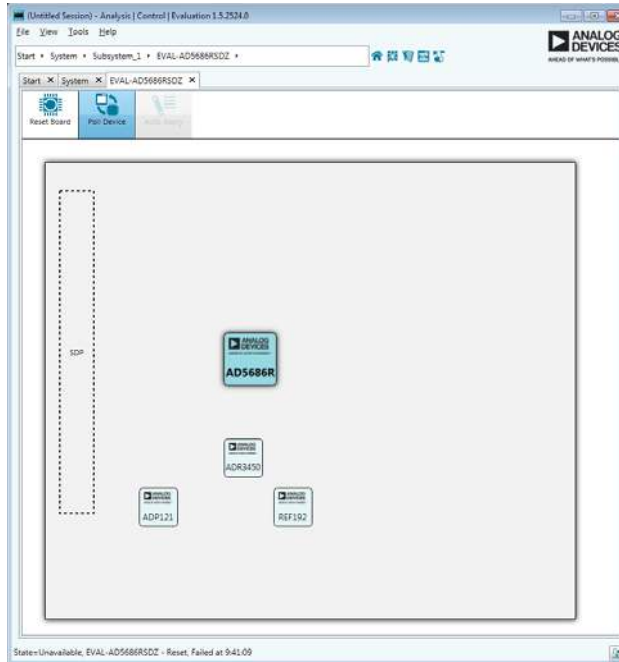
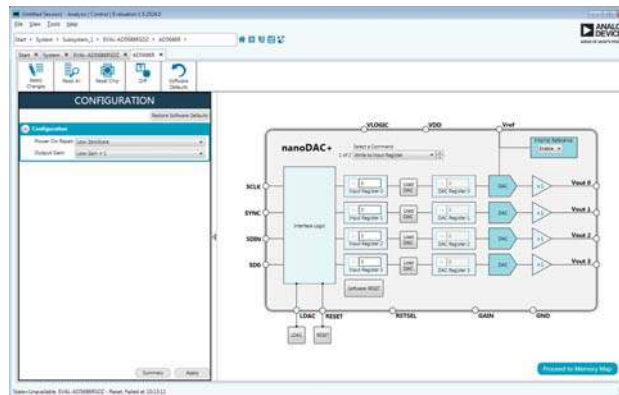
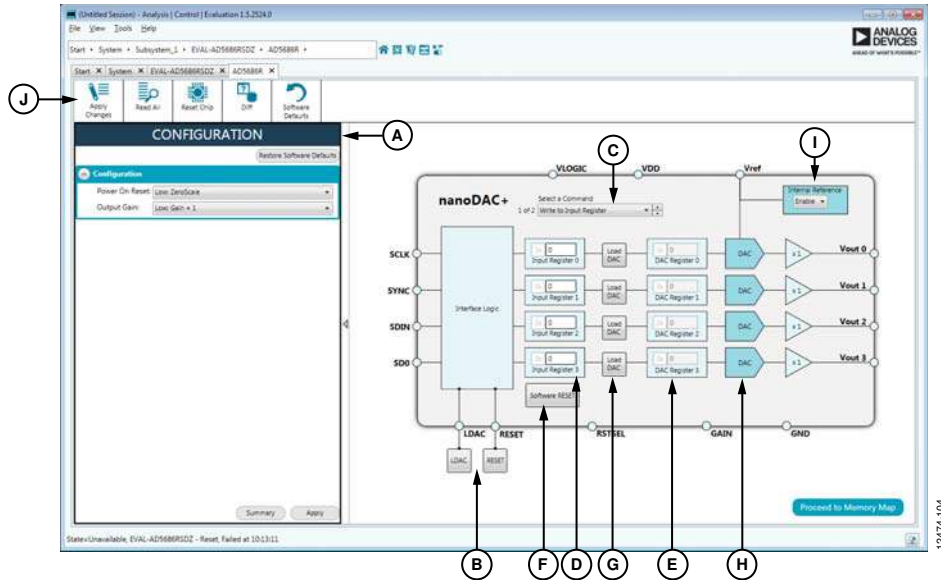

Figure 2. Board View of the EVAL-AD5686RSDZ
Figure 3. Chip Block Diagram View of the AD5686R
Figure 4. AD5686R Block Diagram with Labels
Added Evaluation Board Quick Start Procedures Section, Figure 2, and Figure 3; Renumbered Sequentially 3
Added Block Diagram and Description Section, Figure 4, and Table 1; Renumbered Sequentially 4
Deleted Evaluation Board Software Section, Figure 2, Figure 3 Figure 4, and Figure 5 5
3. Double-click the board plug-in to open the board view seen in Figure 2.
4. Double-click the AD5686R chip to access the chip block diagram. This view provides a basic representation of functionality of the board. The main function blocks of the board are labeled in Figure 3.
Some of the blocks and their functions are described in this section as they pertain to the evaluation board. The block diagram is shown in Figure 4. Table 1 describes the functionality of each block.
Table 1. Block Diagram Functions (See Figure 4 for Labels)
All registers are fully accessible from the **AD5686R Memory Map** tab, as shown in Figure 5. To navigate to this tab, click **Proceed to Memory Map**, shown in Figure 4. This tab allows registers to be edited at a bit level. The bits shaded in dark gray are read only bits and cannot be accessed from the **ACE** software. All other bits are toggled.